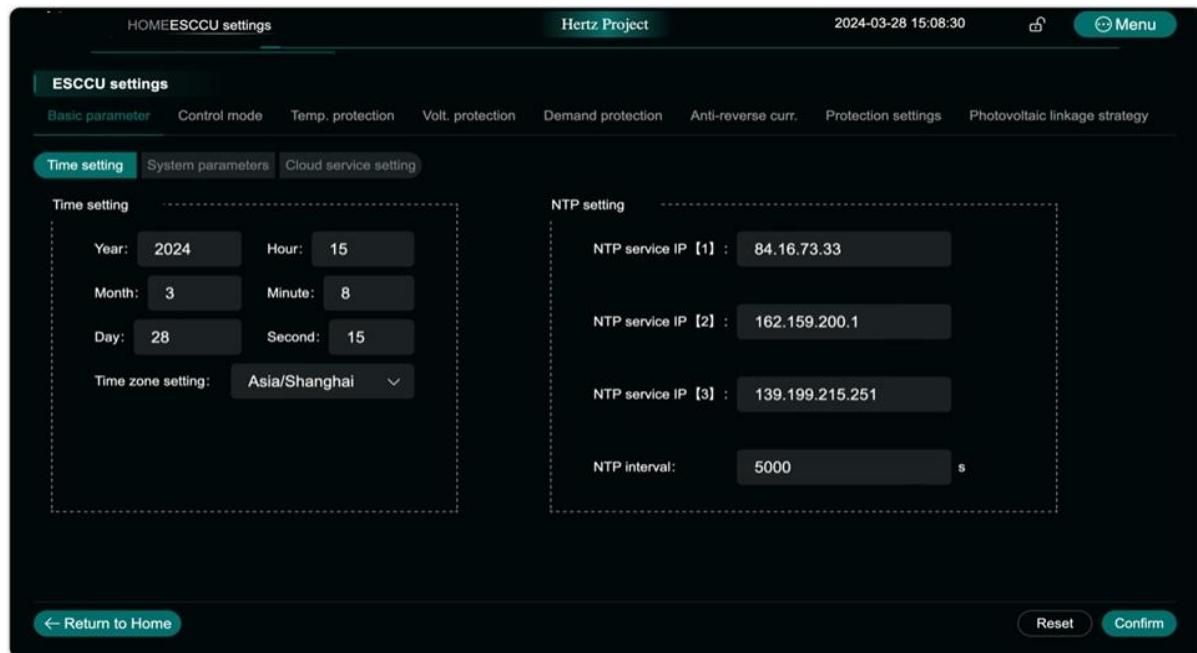

Figure 5-9 Basic Setting
- 4) Multi-Rack data view: click on each heap's data frame to access detailed parameters for each corresponding heap (refer to Figure 5-9).
The real-time alarm bar on the right of Figure 5-9 displays the real-time alarms of BMS communication status, battery stack, battery cluster, and battery cell. Click "More Details" to query the specific alarm type, description, and start time of the alarm.